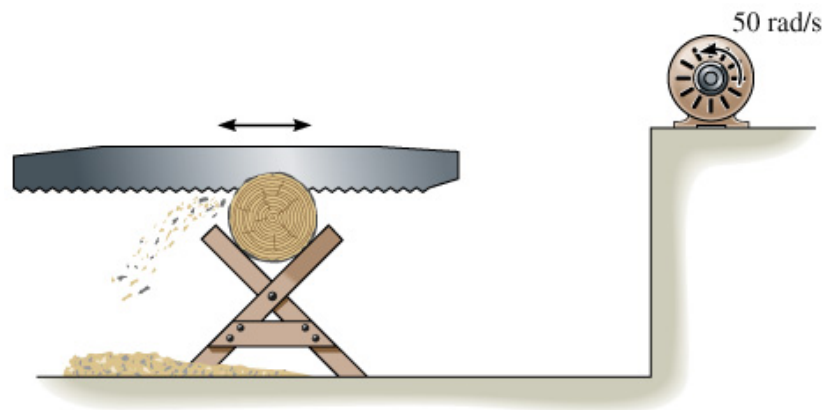

Figure 2
2. In Figure 2, the saw blade in a lumber mill is required to satisfy these conditions;